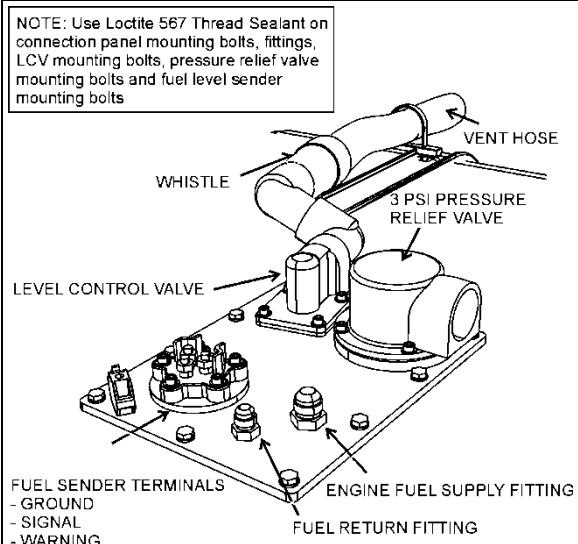

FIGURE 16: FUEL TANK CONNECTION PANEL
4. Disconnect the fuel level sender electrical wires (3 wires). Prior disconnecting, identify the wires and proper terminal on the fuel level sender as reference for reinstallation (Figure 16).